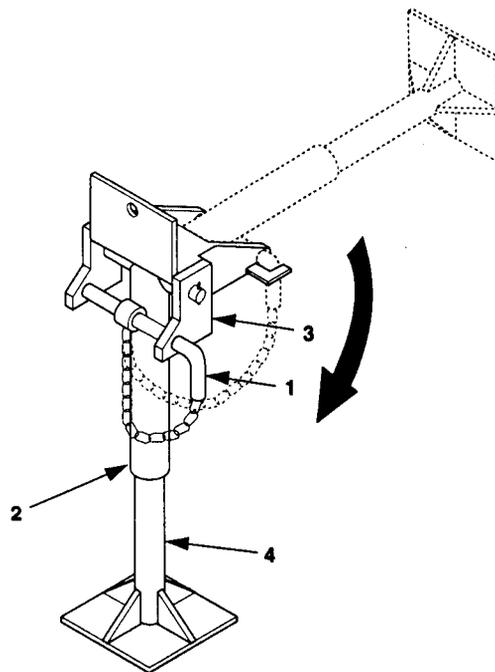

Figure 2-5. Rear Leveling-Support Jack.
- (5) Refer to TM 9-2330-202-14&P (1 ton trailer) or TM 9-2330-392-14&P (high mobility trailer) and disconnect trailer from towing vehicle.
- (6) Pull out pin (1, figure 2-5) that secures rear leveling-support jack (2) in travel position,
- (7) Pull rear leveling-support jack (2) down. Insert pin (1) in bracket (3) to secure rear leveling-support jack (2) in down position.
- (8) Turn leg base (4) until it makes firm contact with ground.